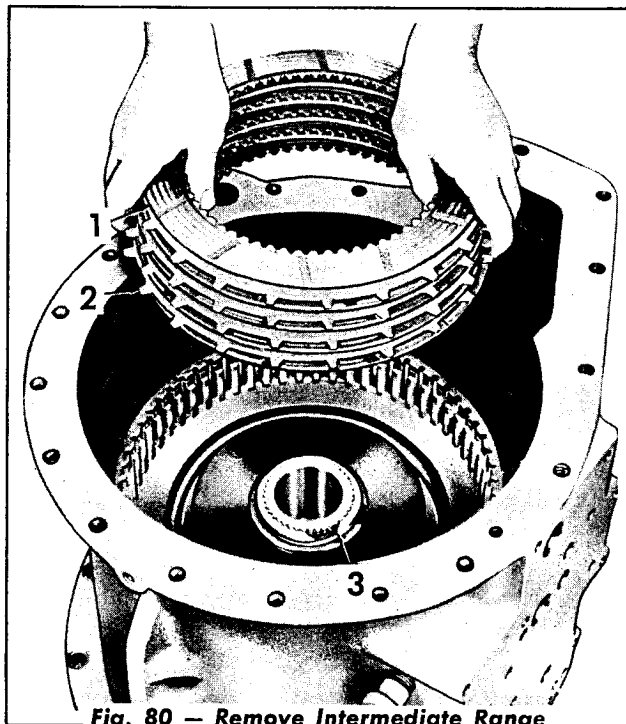

Fig. 80 — Remove Intermediate Range Clutch Plates
18. Remove the five internal and the four external splined intermediate range clutch plates (Fig. 80). Remove the snap ring from the forward carrier shaft.